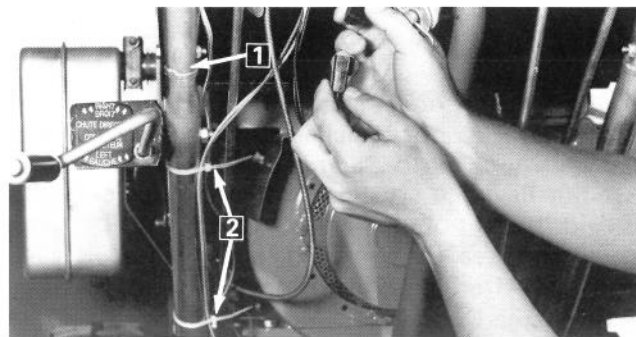

Figure 12
25. Secure wiring to left handle with two tie wrap (Fig. 12).